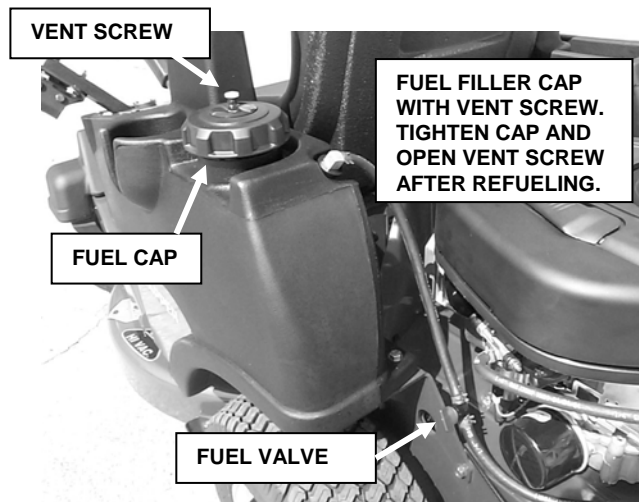

FIGURE 2.2
- 2.1.6. Add fuel to tank with machine out of doors where fumes can safely dissipate. Refer to engine owner's manual for fuel specifications. Make sure fuel filler cap is tight after filling tank. Open vent screw on fuel cap by turning counterclockwise. Also open fuel valve, located in fuel line. See Figure 2.2.
- 4. Make sure vent screw on fuel cap and fuel valve in fuel line are both open. See Figure 2.2.